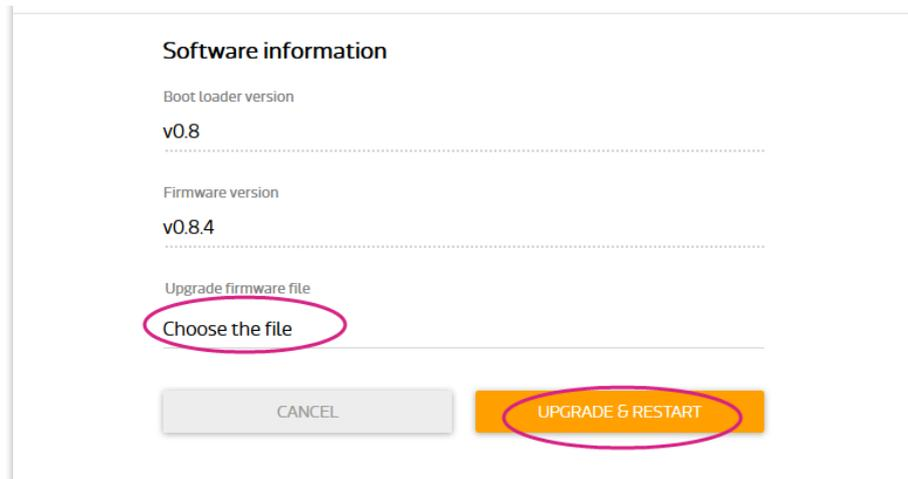

Figure 25 Selecting firmware file
- 3) Click **Choose the file** and select 1ks7688 .img file. Click **UPGRADE & RESTART** as shown in Figure 25.